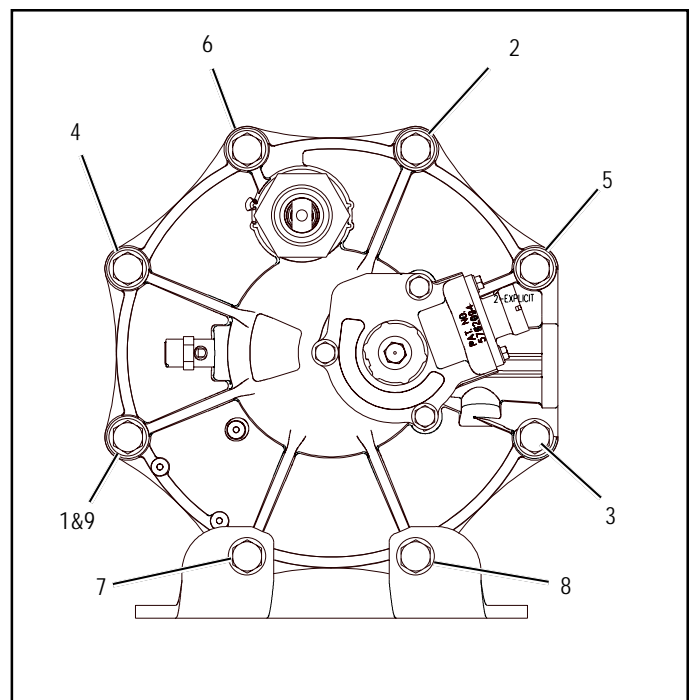

FIGURE 8 - END COVER TO HOUSING TORQUE PATTERN
3. Install the desiccant cartridge o-ring (21) in its groove in the end cover. Using a light coat of lubricant (included in kit), lubricate the bottom of the desiccant cartridge in the area that will contact the o-ring (21) and end cover. Screw the desiccant cartridge into the end cover until contact is made between it and the o-ring. Using a strap or chain wrench positioned 2-3" from the bottom of the cartridge, turn the desiccant cartridge clockwise 180-225 degrees beyond the position where initial contact was made between the cartridge and end cover o-ring. Torque should not exceed 50 ft. lbs.
4. Install the end cover outer housing o-ring (23) on the shoulder in the end cover. Place the housing (24) over the desiccant cartridge and align the holes. Install the six 3/8" cap screws (16), lock nuts (19) and twelve special washers (17) making certain they are in the proper position as marked during disassembly. The two longer 3/8" cap screws (18) will be used to secure the AD-9® air dryer to its mounting bracket. Tighten the six cap screws and nuts in a star pattern in a fashion similar to Figure 8; depending on lower bracket location. Torque to 270-385 in. lbs. (Refer to Fig. 8.) **Note:** The two remaining bolt holes in the end cover and two 3/8" cap screws must be the ones marked during disassembly to assure proper orientation of the ports and adequate length of the cap screws.